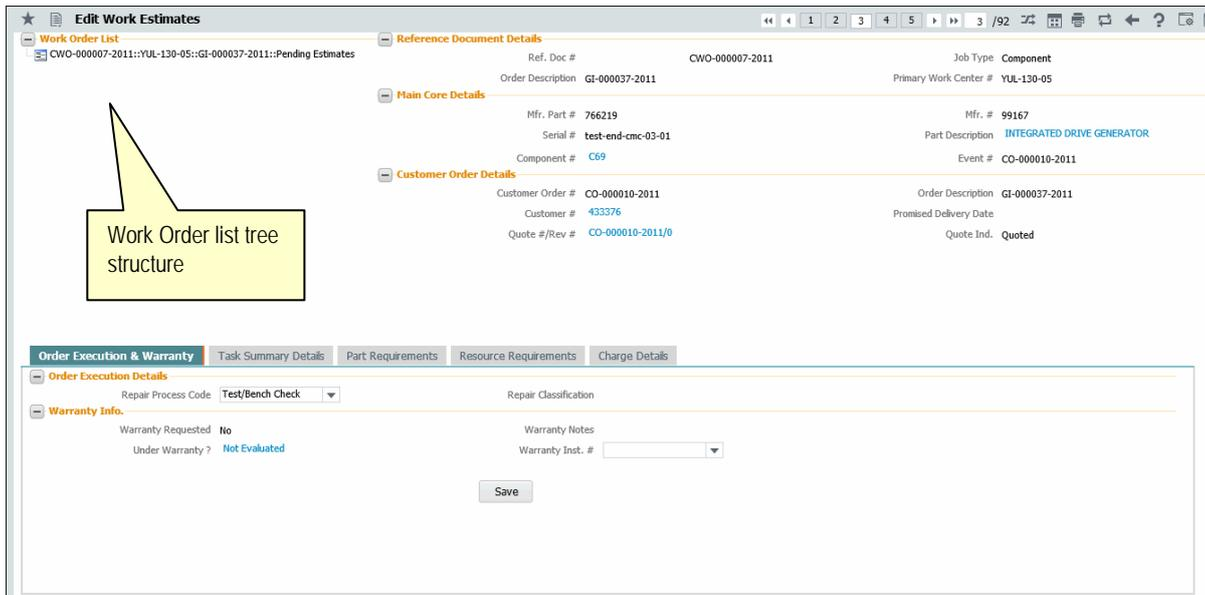

Figure 2.10 Recording work estimates
5. Click the hyperlinked execution document number in the multiline. The **Edit Work Estimates** page appears. *See figure 2.10.*